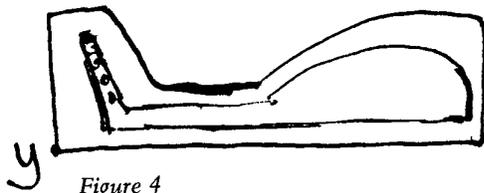

Figure 4
8. A bottom pattern can be made from the top pattern, extending the neck portion for enough length to extend all the way around to point y . *Figures 4 and 5*.